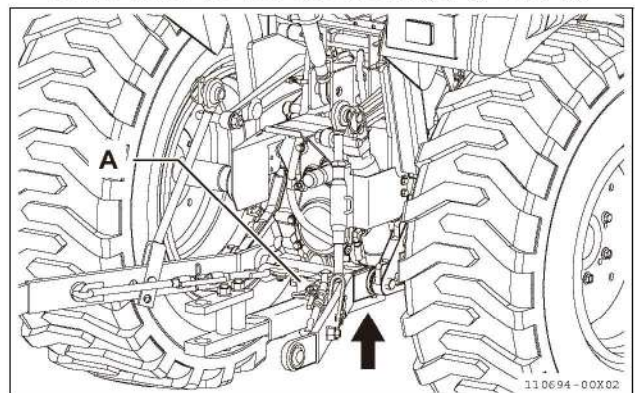

Fig 12-5
**(A) Jacking point at front**
3. Jack up the rear end of tractor. Firmly support the rear axle housing (Fig 12-5, A) of the tractor rear end by hoist or jack, then set the rigid stands under the rear axle housing (Fig 12-5, B).